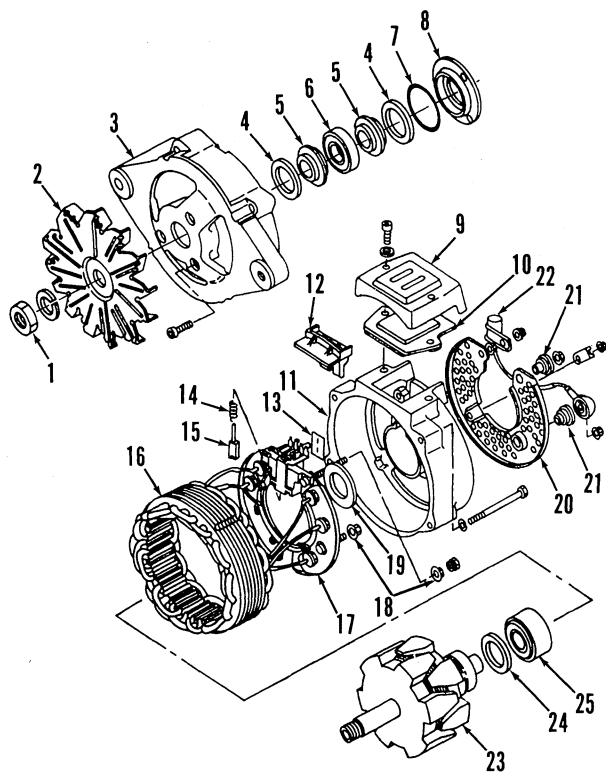

Fig. 87—Exploded view of John Deere alternator used on tractors equipped with Sound-Gard body.
tor frame and rear housing to ensure correct alignment when reassembling. Remove through-bolts, then separate front and rear housings. Remove pulley nut (1—Fig. 87) and pulley from rotor shaft. Withdraw rotor (23) from front housing. Remove regulator cover (9) and regulator (10). Remove stud nuts and insulators securing rear cover (20). Lift out stator (16), rectifier bridge (17) and brush assembly.
When reassembling alternator, be sure the insulating bushings (18 and 21—Fig. 87) are installed on studs on output side of rectifier bridge. Inspect front and rear rotor bearings and renew if necessary. Push brushes back for clearance and hold in position by inserting a wire through hole in rear housing. Remove wire after rotor is in position in rear frame. Align indexing marks made on housings prior to disassembly, then install through-bolts. Tighten pulley retaining nut to 60 ft.-lbs. (80 N·m.)